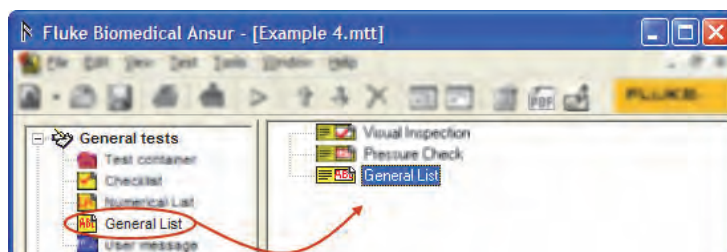

Figure 3-44. Adding a General List
4. Release the left mouse button. A copy of the test element is displayed as shown in Figure 3-44.